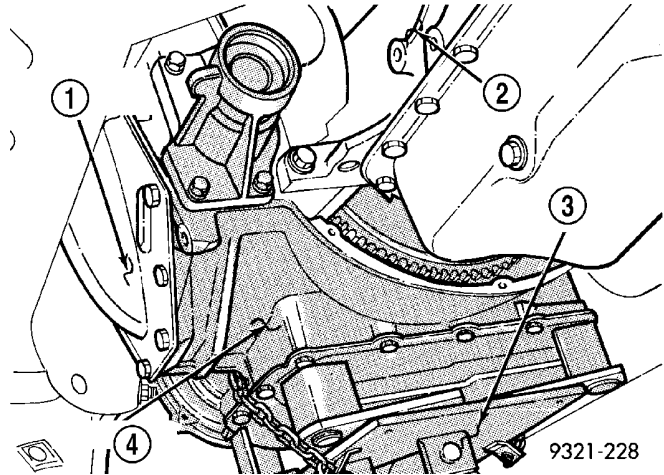

Fig. 13 Transaxle Jack
(10) Remove bolts securing exhaust flex joint to exhaust manifold. Disconnect exhaust pipe from manifold.
(11) Remove torque converter dust cover. Mark torque converter and drive plate with chalk, for reassembly. Rotate engine clockwise and remove torque converter mounting bolts.
(12) Remove engine mount bracket from front crossmember.
(13) Remove front mount insulator through-bolt and bellhousing bolts.
(14) Position transaxle jack (Fig. 13).
(15) Remove rear engine mount shield.